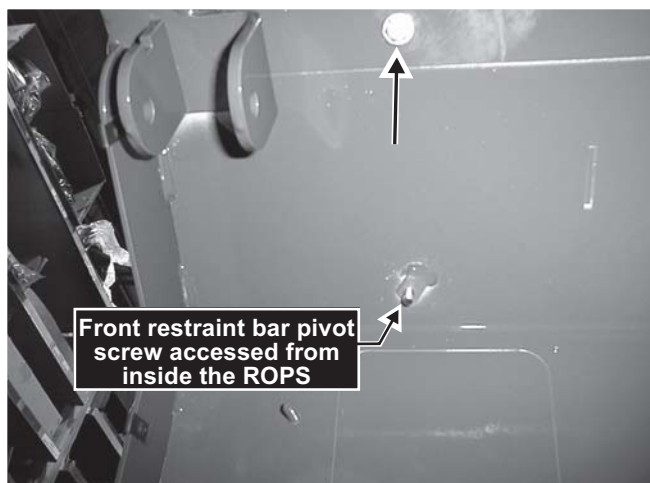

Fig. 4-23 Location of capscrew securing the rear of the restraint bar pivot underneath the ROPS frame. View is from underneath ROPS.
2. Underneath the ROPS, remove screw securing the rear of the restraint bar pivot. **Fig. 4-23**